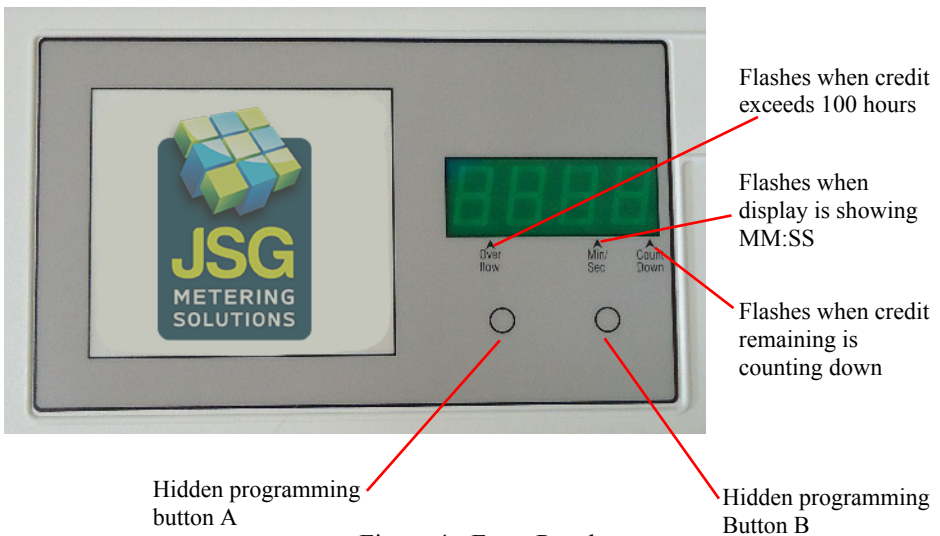

Figure 4 - Front Panel
- (1) The 4 digit 7 segment display, in conjunction with the hidden programming buttons, is used to program the JSGCT30, as well as showing time remaining and mode of operation (see Figure 4).
- (2) The coin entry accepts tokens or 10p, 20p, £1, €½, €1 coins.
- (3) The optional key over-ride switch turns the timer output on permanently.
- (4) Access for installation is via the cover lock.
- (5) Cash box holding 100 coins.
- (6) Hidden programming buttons (page 3).
To access service mode remove the coin box, press and release button B (Figure 4) to step to the desired setting number (St.01 to St.04). Simultaneously pressing and releasing both buttons A and B will step back to the previous setting. On reaching the required setting number press button A to enter desired values.
Insert coin/token. The display will briefly show 'Coin'. The display will then show the remaining credit. If the credit is greater than one hour it will be displayed in hours & minutes, e.g.; 2 hours will be displayed as '02:00'. If the credit is less than one hour it will be displayed in minutes & seconds, e.g.; 40 minutes will be displayed as '40:00' and an indicator will flash on the display to show this (Figure 4).